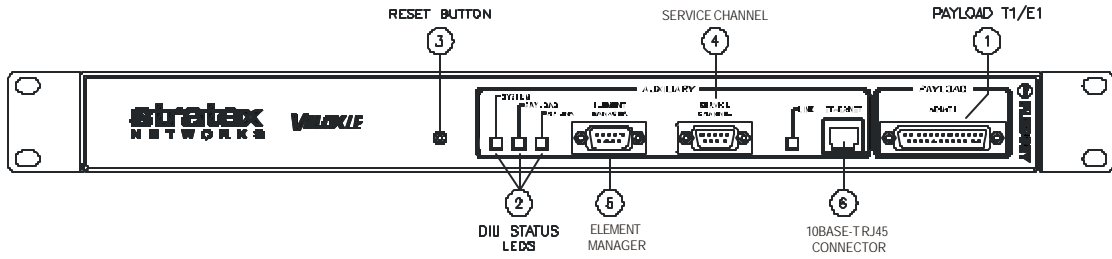
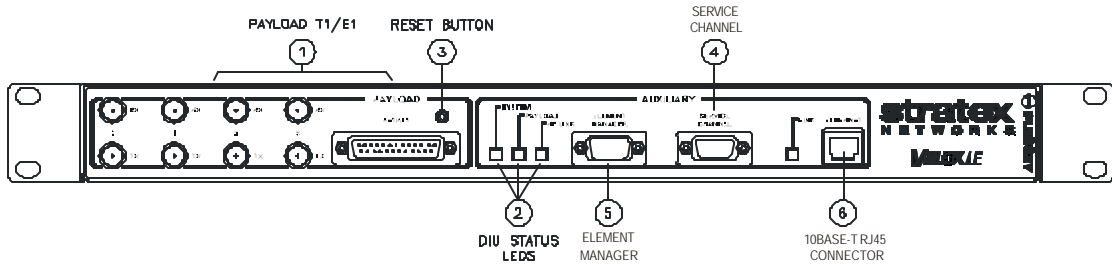
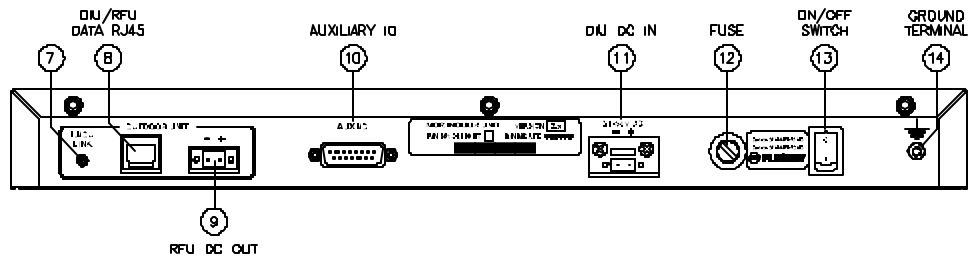

Figure 3-1. Velox LE DIU 120 Ohm Front Panel
Figure 3-2. Velox LE 75/120 Ohm DIU Front Panel
Figure 3-3. Velox LE 75/120 OHM DIU Back Panel
- Velox LE (120 Ohm version) (scalable up to 4 T1/E1), (see Figure 3-1 below and Figure 3-3 on page 3-2).
- Velox LE (75/120 Ohm version) (scalable up to 4 T1/E1), (see Figure 3-2 on page 3-2 and Figure 3-3 on page 3-2).